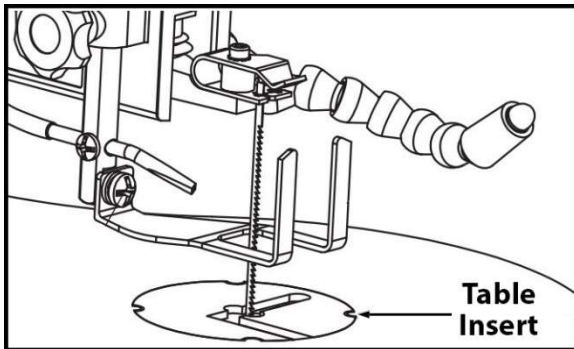

Figure 13A
2. Carefully pull up the table insert and remove it from the table. See figure 13A.
7. Carefully adjust the blade to the desired tension by turning the blade tensioning knob (1) clockwise.
8. Place the table insert back into place and press it firmly to make sure that it is correctly seated. See figure 13A.